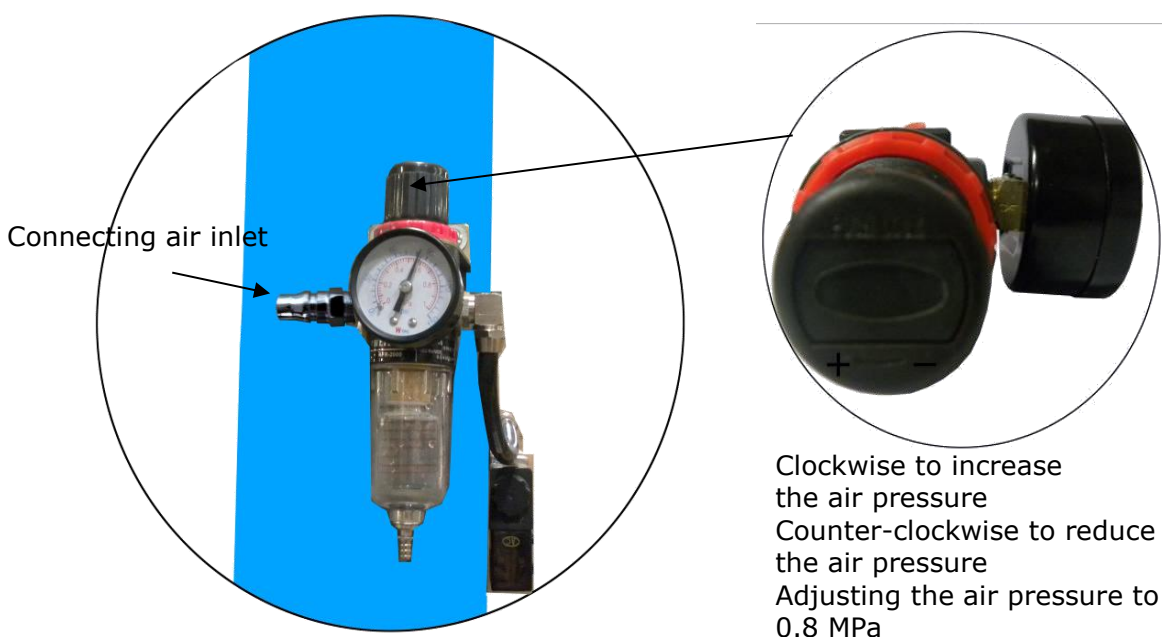

Fig. 42
5. Connecting air inlet (Air supply pressure 8 kg/cm²), adjusting the air pressure of Oil-water separator to 0.8 MPa (See Fig. 42).